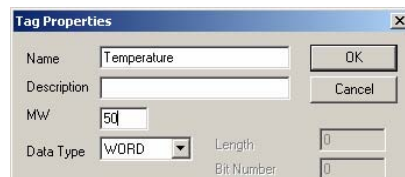

Figure 2 - Temperature Tag Properties
9. Give the tag a name and configure the tag properties. You can configure a tag similar to one show in Figure 2.